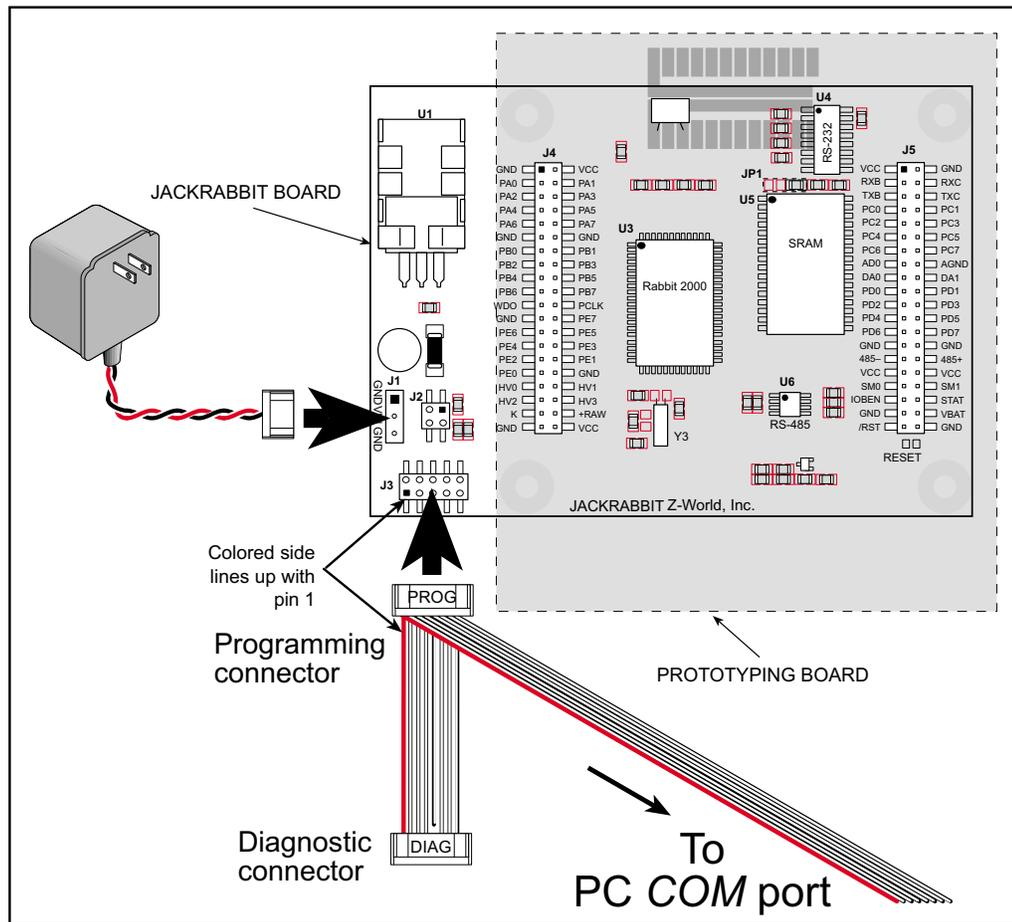

Figure 3. Power and Programming Cable Connections to Jackrabbit Board
1. Connect the 10-pin **PROG** connector of the programming cable to header J3 on the Jackrabbit board as shown in Figure 3. (If your programming cable has only one unlabeled 10-pin connector, attach that connector to header J3 on the Jackrabbit board.) Connect the other end of the programming cable to a COM port on your PC. Note that COM1 is the default COM port used by Dynamic C.
2. Hook up the connector from the wall transformer to header J1 on the Jackrabbit board as shown in Figure 3. The orientation of this connector is not important since the VIN (positive) voltage is the middle pin, and GND is available on both ends of the three-pin header J1.
- The programming cable must be connected to the Jackrabbit board. (The colored wire on the programming cable is closest to pin 1 on header J3 on the Jackrabbit board, as shown in Figure 3 on page 7.) The other end of the programming cable must be connected to the PC serial port, possibly, using the 9- to 25-pin adapter if necessary. The COM port specified in the Dynamic C **Options** menu must be the same as the one the programming cable is connected to.